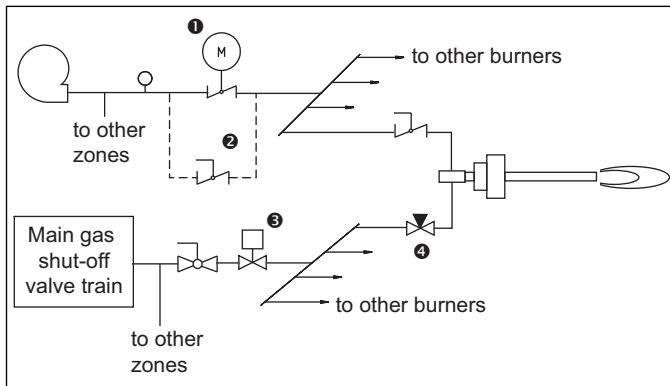

Figure 3.1. ON/OFF Gas Control. Constant Air
The system controls the temperature in cycles, simultaneously opening and closing the general gas solenoid valve ⑤ within each cycle in conjunction with the requirements. All burners are set by manual balancing valves ④. See Figure 3.1.